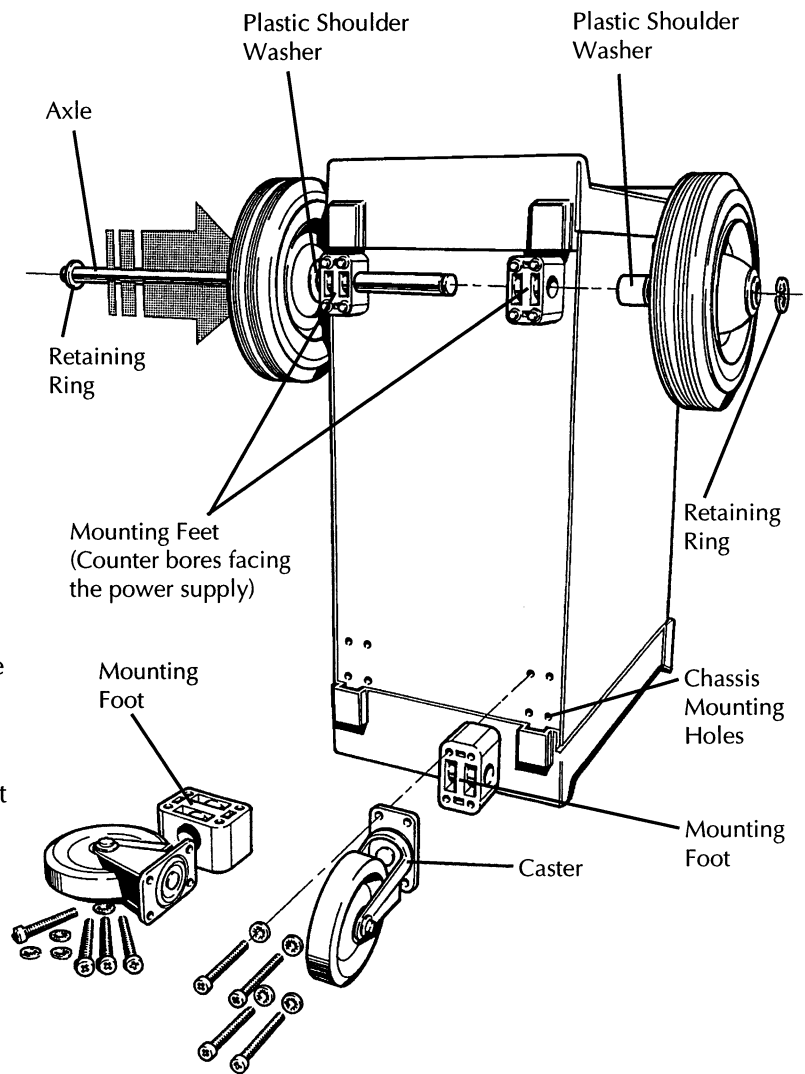

Figure 2 Wheel Installation
3. Carefully tilt the power supply forward onto its front handle - Fig. 2.